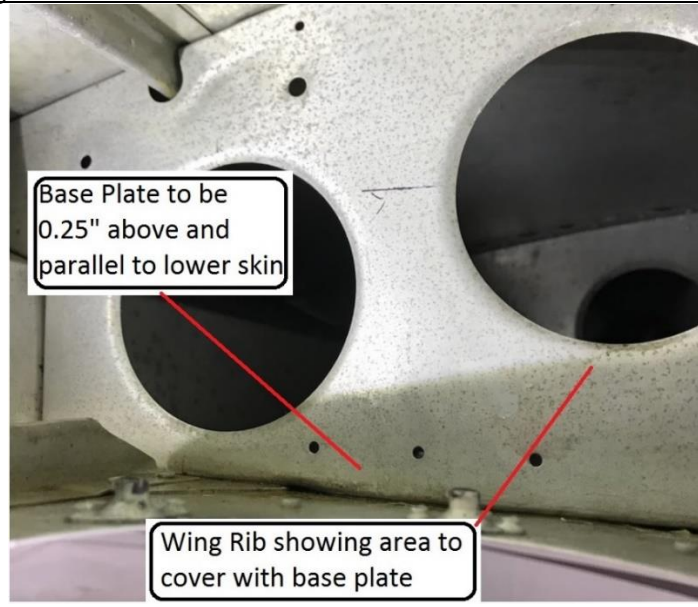
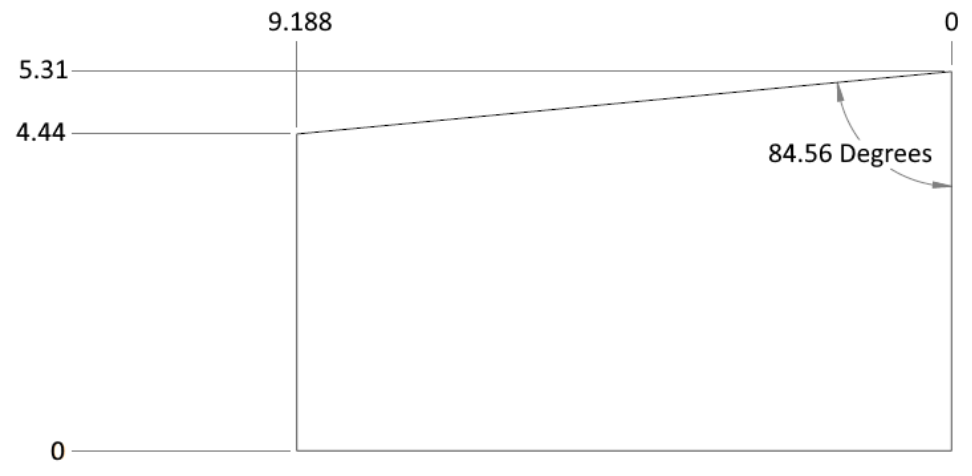

FIGURE 3-12 WING RIB
FIGURE 3-13 ADAPTER PLATE
2. If your RH wing rib W.S. 155 has round lightening holes as depicted in Figure 3-12 then you must fabricate an adapter plate that is riveted to the rib. Sample adapter plate dimensions are depicted in Figure 3-13.